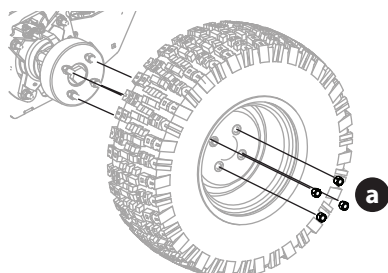

Fig. 34
1. With the tires on the ground, loosen, but do not remove the four lug nuts (a) (Fig. 34 on page 26).
- Torque the lug nuts (a) to 65-70 ft-lbs (88-95 N-m) in a crisscross pattern (Fig. 34).